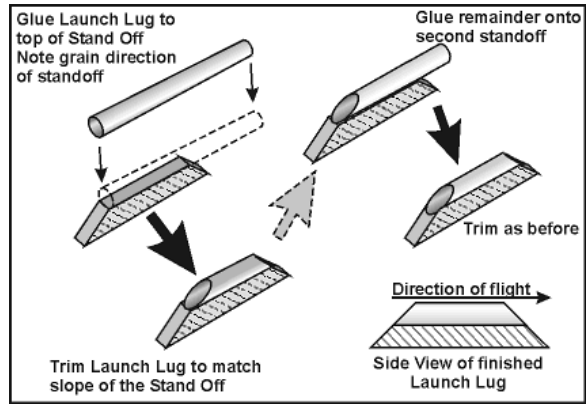

Figure 9
- Locate the **Launch Lug** provided with this kit. Glue it to the top (narrow part) of the Standoff, with the end of the lug near the edge of the standoff as shown in **Figure 9**. When dry, use your Razor Knife or Razor Saw to cut the Launch Lug at an angle that matches that of the Standoff. Glue the remainder of the Launch Lug to the second Standoff and trim in the same manner.